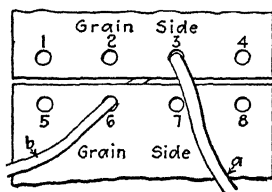

FIG. 259.
4. Select a lace, a trifle longer than is required, that will pull fairly easy through the holes. Butt the ends of the belt together with edges flush. Put lace up through holes 3 and 6 from the *flesh* side (see Fig. 259) pulling ends of lace even. Put lace *a* down through 7, up through 4 (and pull tight, using the pliers if necessary), down through 8, up through 4 once more, down through 8 again, up through 3, down through 7, up through 2. Punch a hole  $\frac{1}{2}$  in. back of hole 2 and pull the lace through this hole. Cut off lace, leaving tab end of about  $\frac{3}{8}$  in. Cut lace nearly half through at the surface of the belt and twist tab end one-half turn, thereby fastening it.